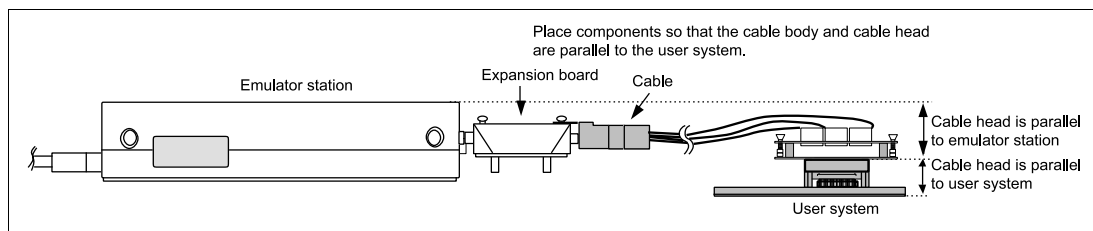

Figure 11 User System Interface Cable Location Example
4. While the emulator station is connected to the user system with the user system interface cable, force must not be applied to the cable head. Position the emulator station, user system interface cable, and user system as shown in figure 11.